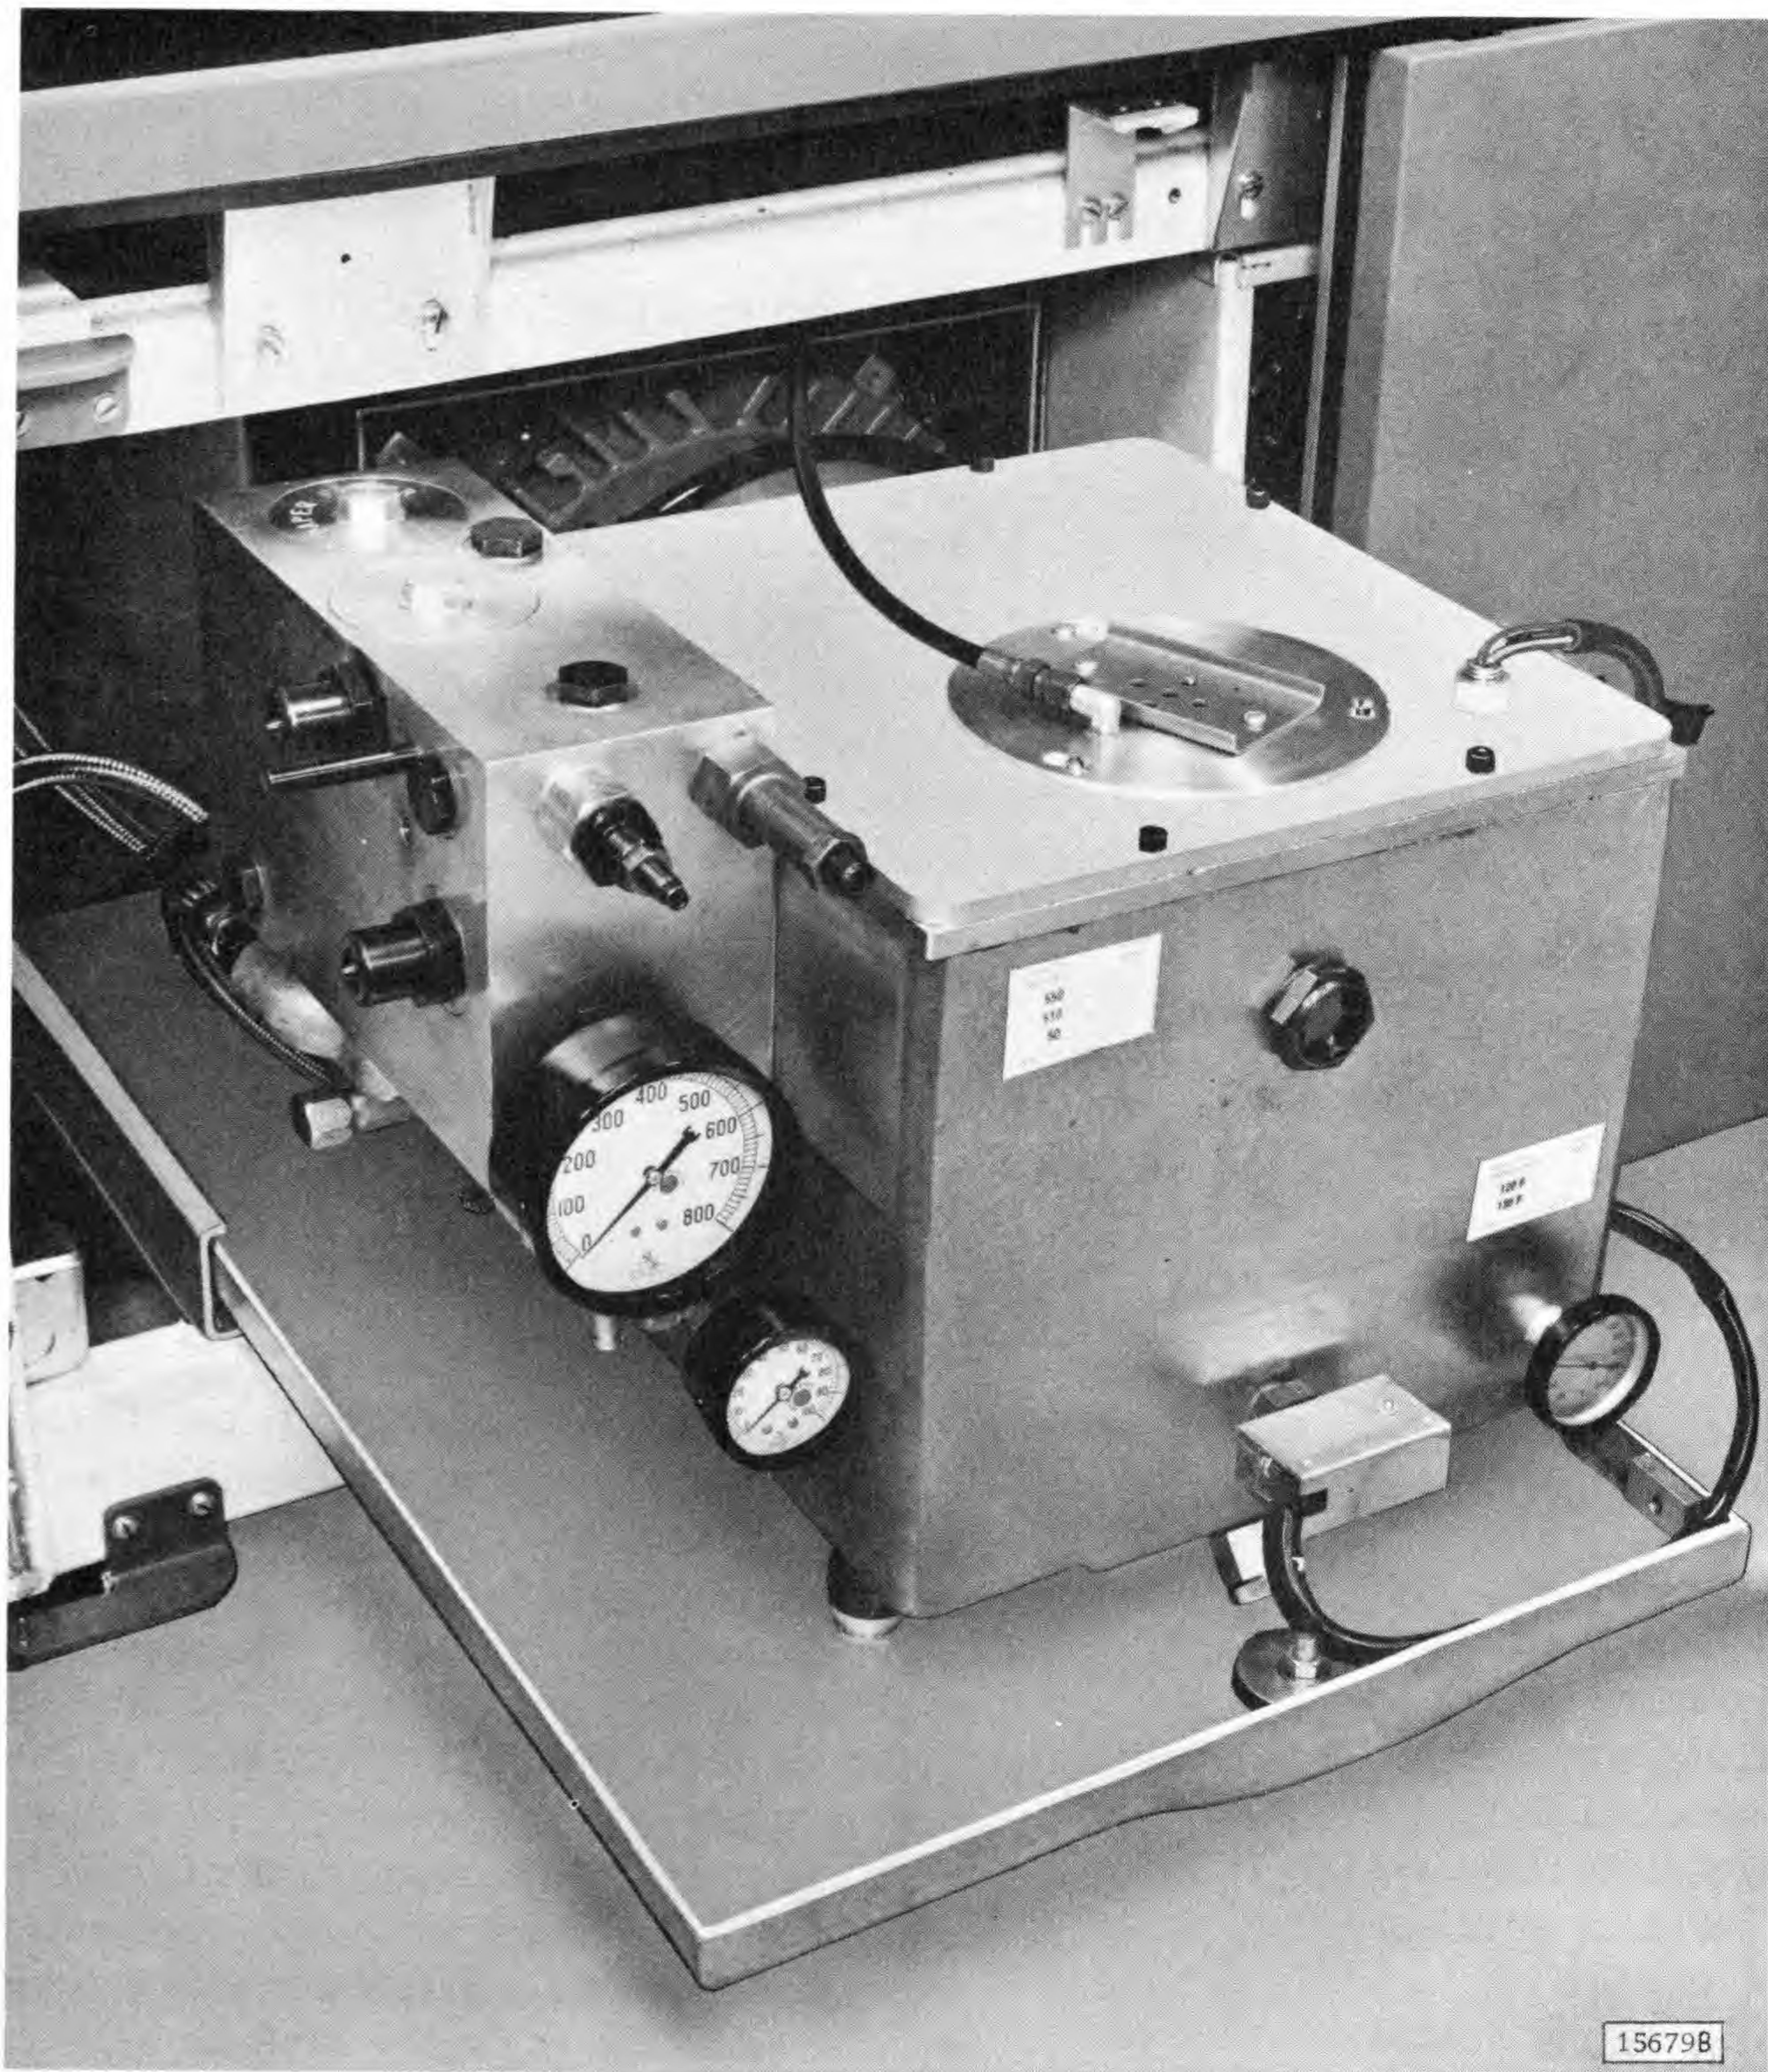

Figure 4-37. Hydraulic Power Supply in Servicing Position
2. Slide unit out rear of machine to servicing position (Figure 4-37).